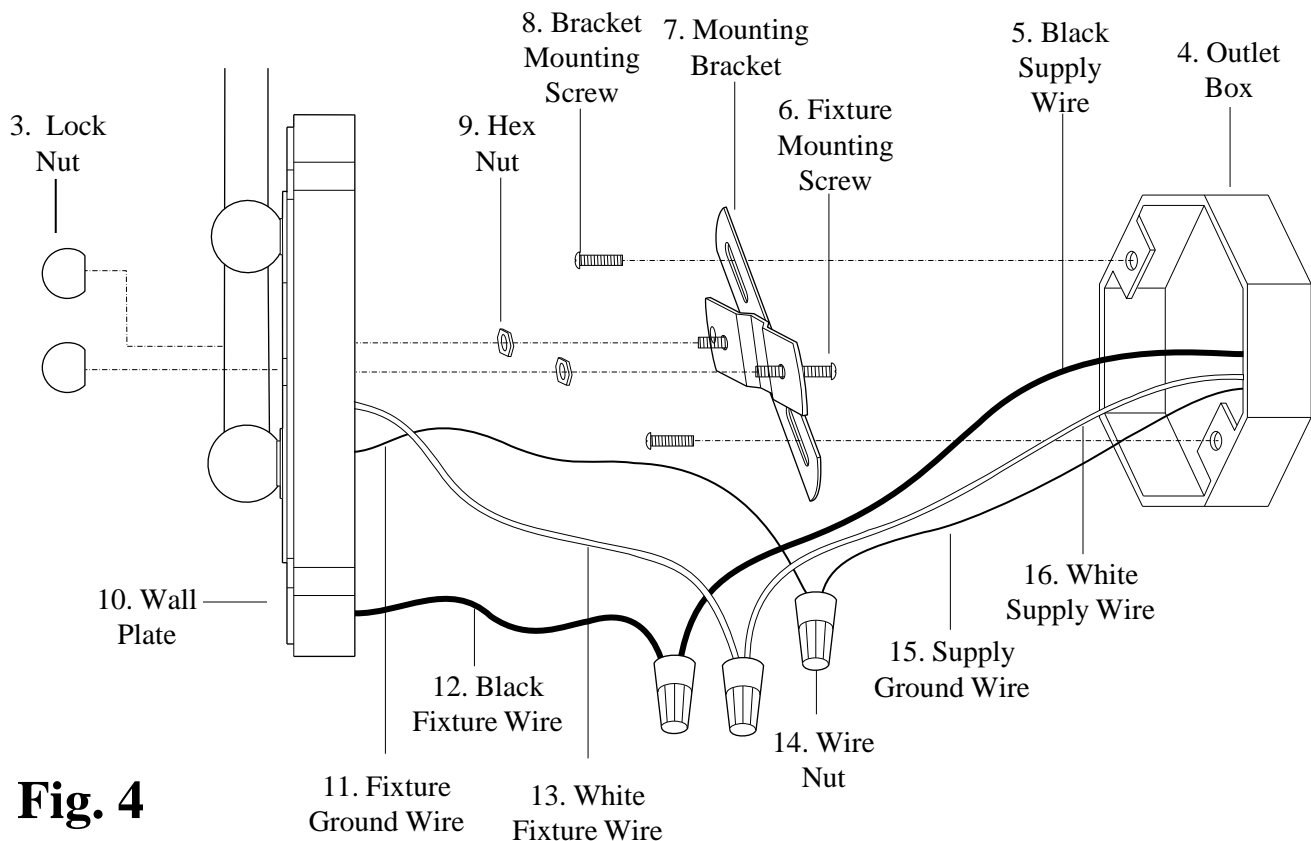

Fig. 4
2. Thread the Fixture Mounting Screws (#6) into the provided holes of the Mounting Bracket (#7) as shown. Thread the Hex Nuts (#9) onto the Fixture Mounting Screws (#6), as shown. Do not tighten the Hex Nuts (#9) at this time (**Fig. 4**).
3. Pull the power supply wires out from the Outlet Box (#4), and mount the Mounting Bracket (#7) to the Outlet Box (#4), using the Bracket Mounting Screws (#8) (**Fig. 4**).
4. Attach the Black Supply Wire (#5) to the Black Fixture Wire (#12) and the White Supply Wire (#16) to the White Fixture Wire (#13) using Wire Nuts (#14). Connect the Fixture Ground Wire (#11) and the Supply Ground Wire (#15) together using a Wire Nut (#14). Wrap all wire connections with electrical tape for a more secure connection (**Fig. 4**). *Note: If you have electrical questions, consult your local electrical code for approved grounding methods.*